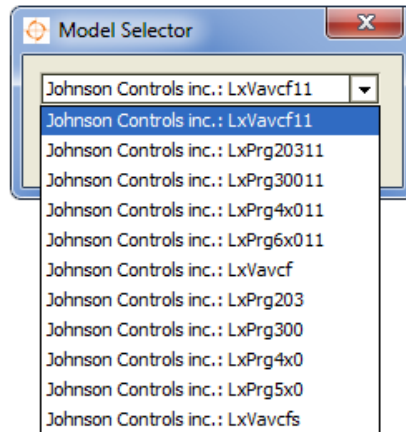

Figure 35: Example Model Selector Options
7. Select the appropriate model from the list (Figure 35).